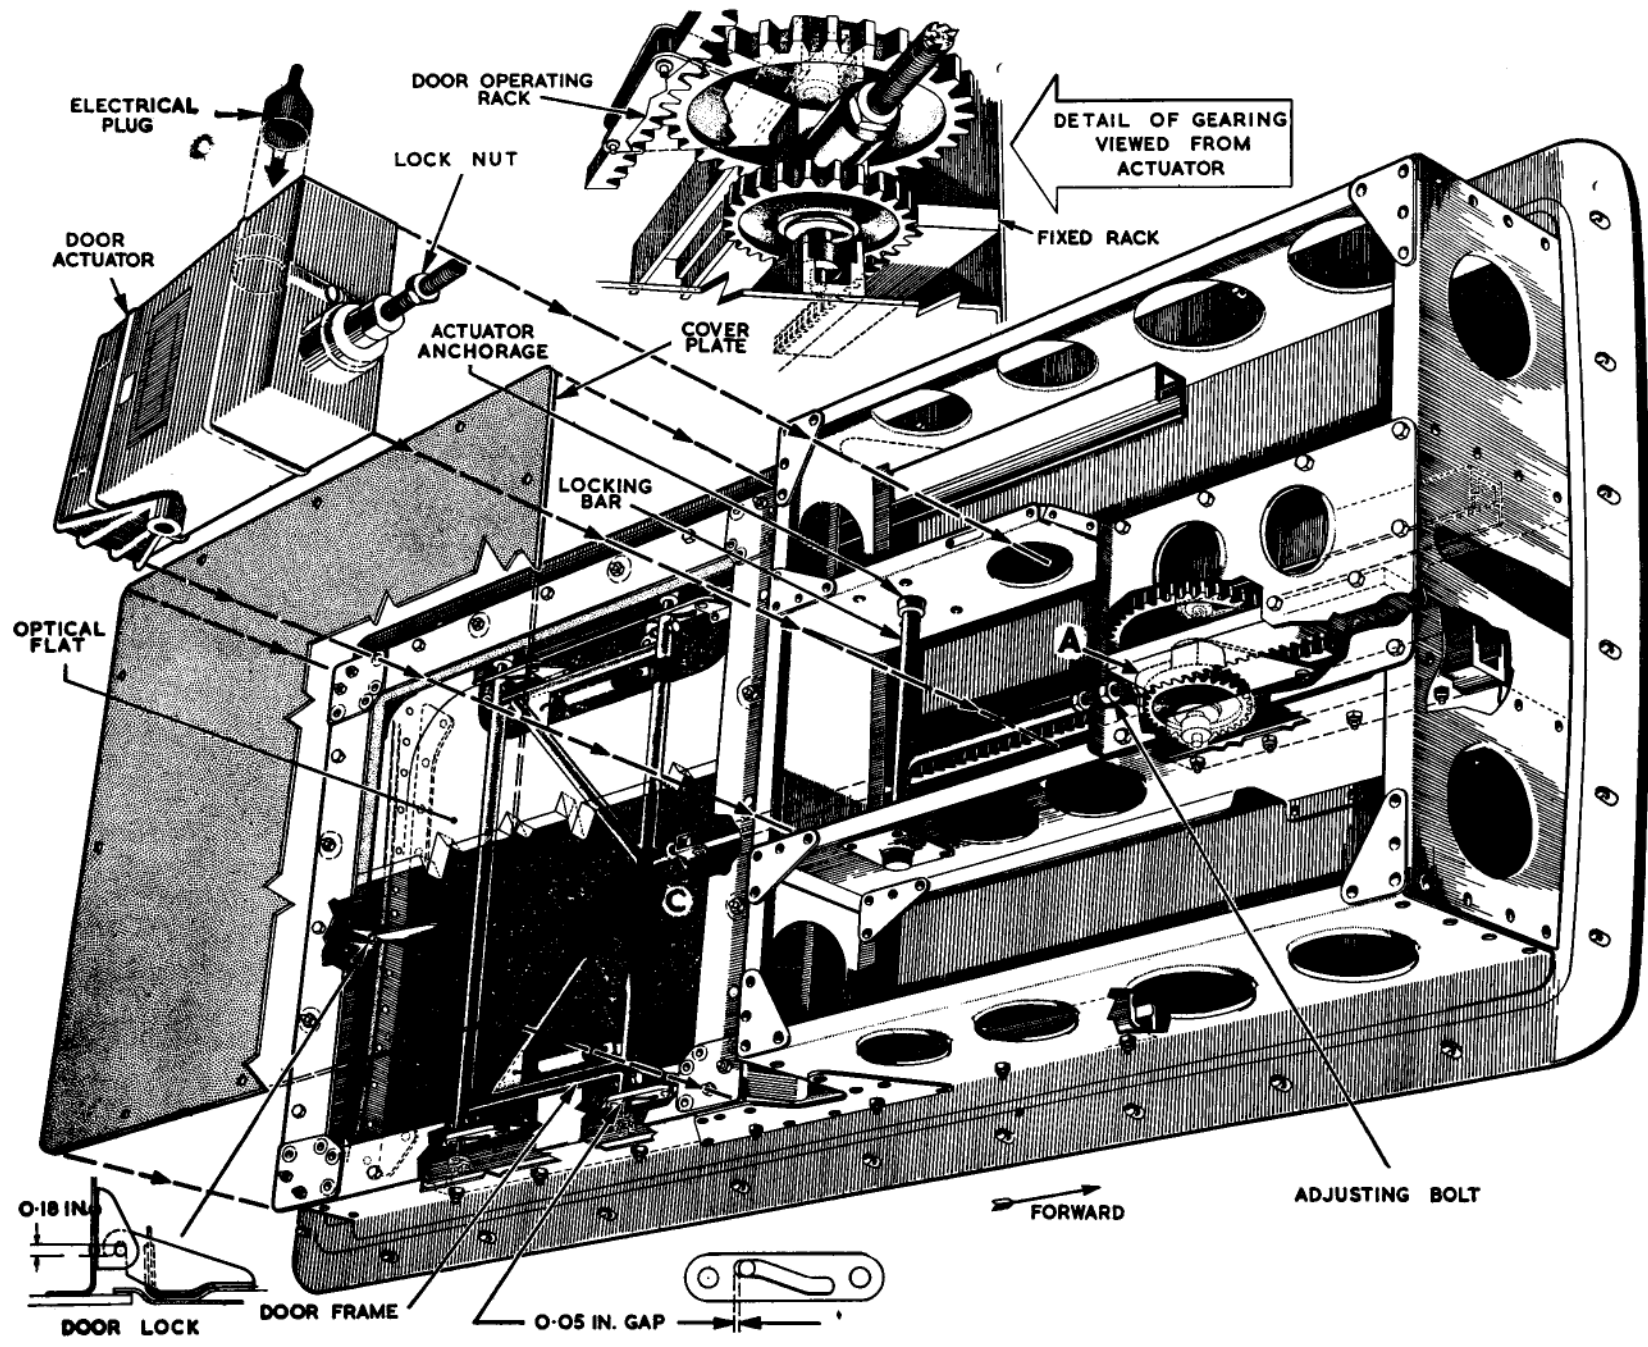

Fig. 4. Oblique camera window panel
### Fitting the oblique camera window, optical flats and actuators (fig. 4)
- (1) Remove the window panel by unlocking the 30 Dzus fasteners securing it to the aircraft.
- (2) Remove the optical flat cover plate from the window panel by withdrawing the twelve securing bolts.
- (3) Remove the locking bar complete with adjusting bolt, which secures the sliding door in the closed position, by removing the two special bolts attaching this sub-assembly to the actuator anchorage.
- (4) Ensure the safe storage of the cover plate, locking bar and adjusting bolt for reversion to bomber role.
(5) Fit the door actuator (item 26) to the adjuster screw body at A, fig. 4, and to the actuator anchorage, using the two special bolts removed in operation (3), and locking washers.
(6) Adjust the door and actuator at point A and /or C, so that a gap of 0.05 in. is obtained between the roller spindle and cam, with the door in the closed and locked position. The actuator adjusting screw must then be locked with the locknut.
(7) Fit the optical flat, using the 12 bolts removed in operation (2).
(8) Refit the complete panel assembly to the aircraft, and secure with the 30 Dzus fasteners.
(9) Connect the electrical plug to the actuator.
(10) Examine the assembly for security and carry out electrical checks (Book 3, Sect. 5, Chap. 8, Group 2).